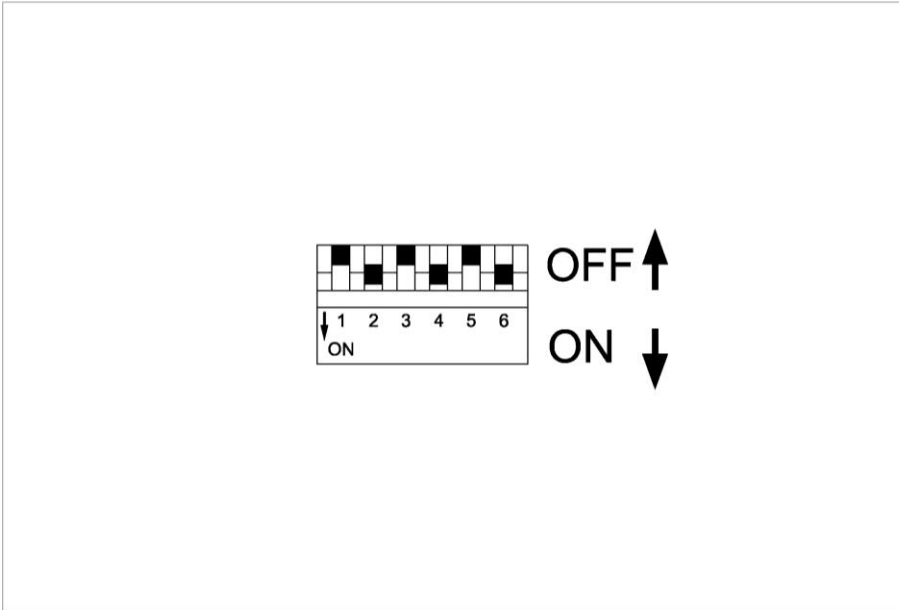

Figure 11 Switch
3. Switch field S1 for the selection of the charging voltage, charging time limitation and power supply mode (see also Figure 11 Switch, Page. 7)